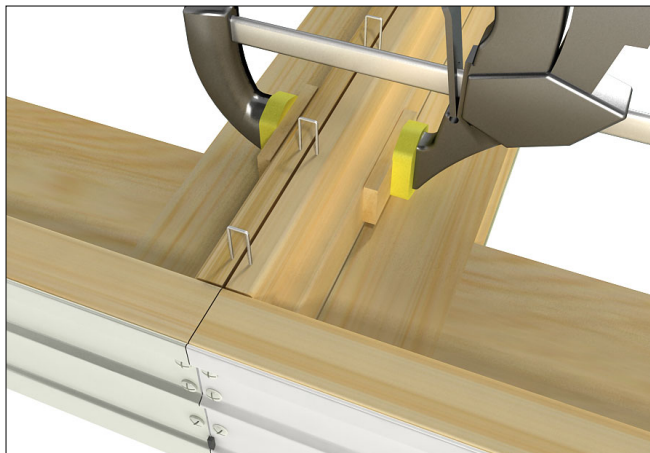

Figure 5
5. Re-check to make sure that units are flush and square with each other. Apply a third clamp to interior if necessary and fasten units together at interior jamb liners with 16 gauge staples spaced every 5" (127). See figure 5.